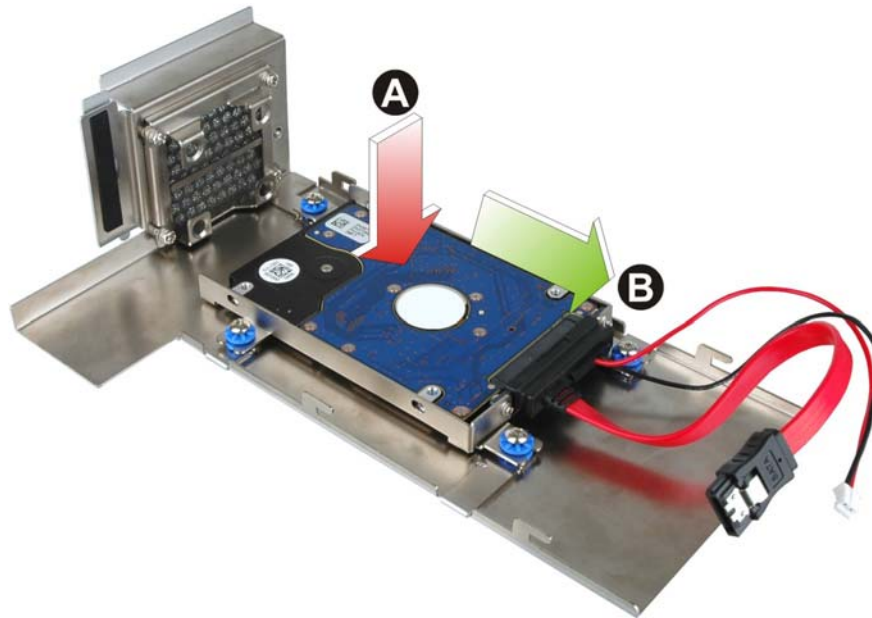

Figure 3-6: HDD Installation
**Step 3:** Attach the HDD to the HDD bracket, and then slide the HDD to connect the HDD to the SATA connector (**Figure 3-6**).